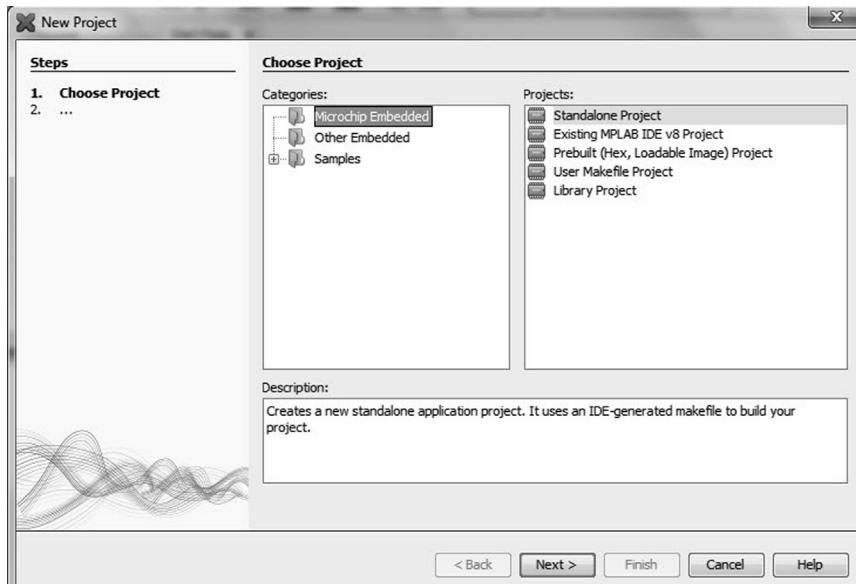

Figure 3.4: Create a Standalone Project.
Step 2. Move the right-hand cursor down and click on icon *Create New Project*. Select the default (Category: *Microchip Embedded*, Projects: *Standalone Project*) as in Figure 3.4 since we are creating a new standalone project.